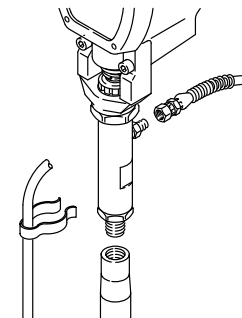

Fig. 12
**NOTE:** Some parts shown Figures 12 to 15 may look somewhat different from your sprayer.
2. Remove the hose (47), clips and drain tube (101). Remove the suction tube (42); hold the wrench on the pump intake valve (223) to keep the pump from loosening. See Fig. 12.